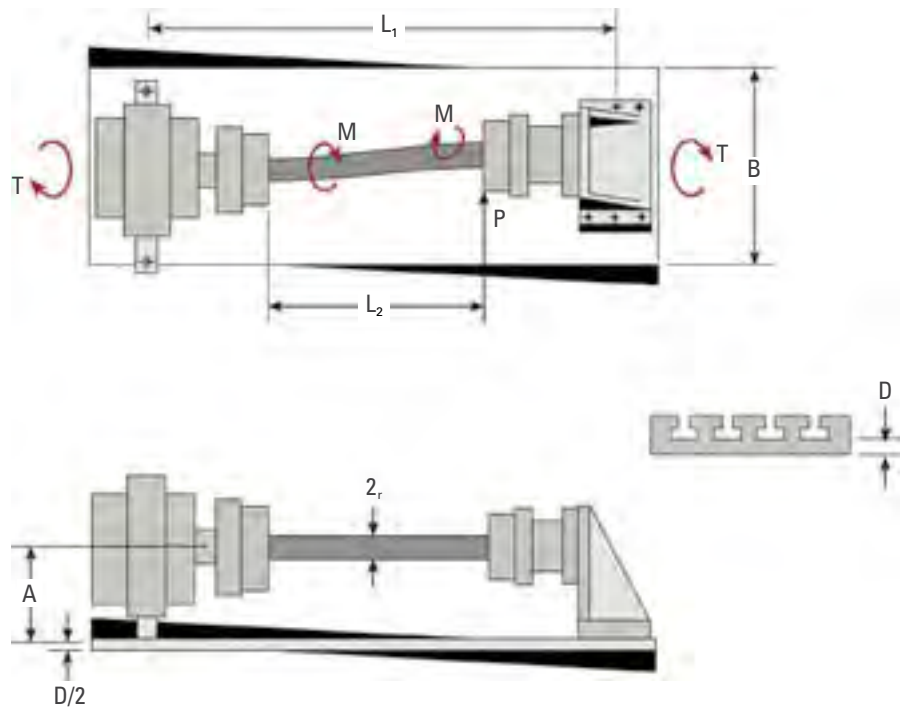

Figure 3. Forces Resulting from Base Plate Twisting (No Flexures)
A torsionally rigid reaction base and flexures on both the rotary actuator and torque cell will reduce side loads to a practical minimum. Figures 3 and 4 illustrate the various forces exerted as a result of reaction base twist, excluding thrust loading from contraction or expansion. The examples that follow will show that an apparently stiff reaction base can exert large side loads on the rotary actuator as well as significant bending stresses on the test specimen.
**Figure 3** illustrates an example of a test setup having no flexures. The parameters that apply to this figure and to the calculations that follow are defined below.